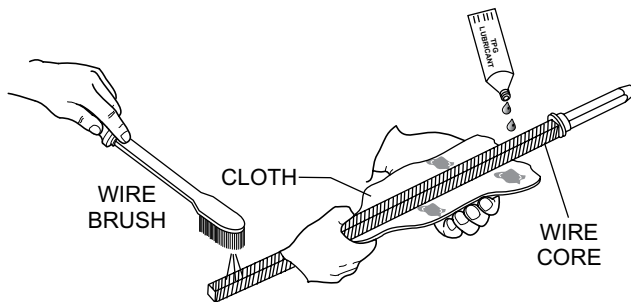

Figure 11. Cleaning Wire Core
- Thoroughly clean wire core (Figure 11) if it is being reused. A wire brush may be required to remove hardened residue.
- Apply a light amount of lubricant (Figure 11) or a good grade bearing grease to the entire length of the wire core. Lubrication recommendations are DuBois "TPG", No. 1552 Wheel Bearing Chassis Grease or No. 1551 Lithium Complex Grease